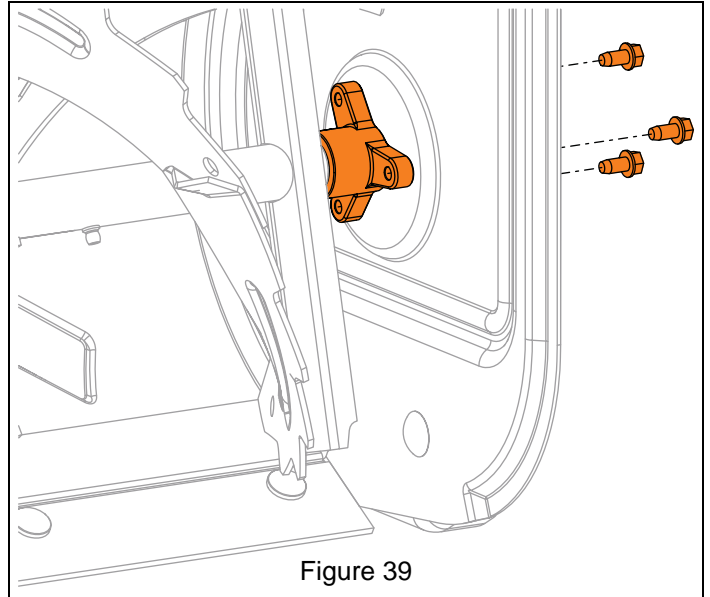

Figure 39
7. Remove hardware securing auger support bushings to auger housing. See Figure 39.
6. Remove hardware securing auger support bushings to auger housing. See Figure 39.